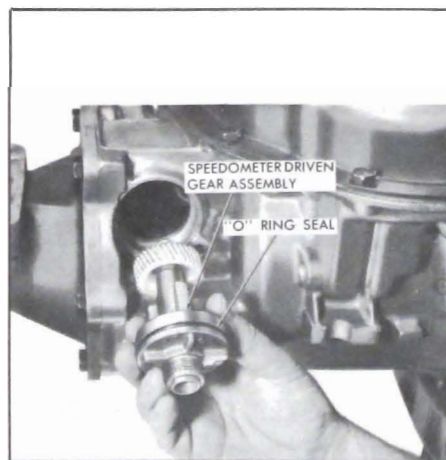

Figure 5-506
4. Withdraw speedometer driven gear assembly from case. See Figure 5-506.